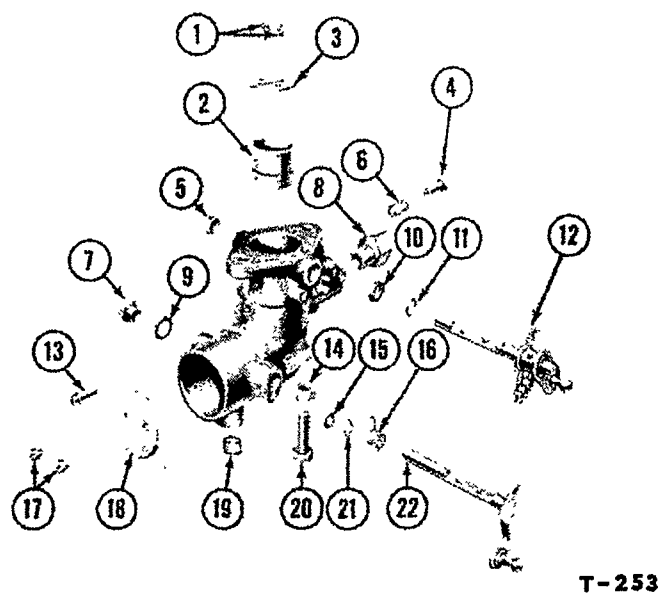

Figure 5—Carburetor Disassembled—Early Type
Make certain that all fuel is burned out of the fuel tank lines, pressure reduction components and carburetor before removing the carburetor. Refer to Figures 5 or 6 for parts identification.
1. Remove the two throttle plate retaining screws and lock washers (1), Figure 5. Remove the throttle plate (3) from the throttle shaft lever (12).
1. Install both fuel adjustment screws (4) and (20), Figure 5, in their respective orifices using the lock nut (14) on the main adjustment screw and spring (6) on the idle fuel adjustment needle.
2. Position the venturi (2) into the carburetor body so that the step in its counterbore faces upward.
Place a new seal retainer (11), Figure 5, over the seal and drive it gently into position with a blunt tool, not over $\frac{7}{16}$ inch in diameter. The retainer should be $\frac{1}{8}$ inch below the top of the
4. If the throttle shaft plug (5), Figure 5, has been removed, press a new plug into the bore. Tap it lightly with a hammer until the top of the plug is flush with the casting.
5. Install the throttle shaft and lever (12). Secure the throttle plate to the shaft with two screws and lock washers (1).
6. Place a new choke seal (15) into the shaft bore and position the retainer (21) over the seal. Assemble the choke return spring (16) loosely on the throttle shaft and lever (22). Install the choke shaft in the carburetor.
7. Position a new gasket (9), Figure 5, on the choke shaft plug (7) and install the plug in the carburetor.
8. Install the choke plate (18) on the choke shaft (22) with two screws and lock washers (17). Hook the choke return spring over the choke lever at one end and attach the other end to the screw provided in the boss, just under the choke lever shaft.